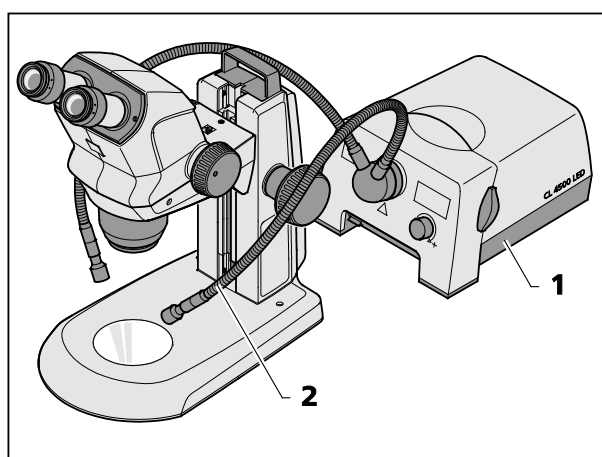

Fig. 11 Mounting external fiber-optic illumination
- Switch on external fiber-optic illumination (Fig. 11/1), adjust illumination intensity and set illumination by bending the two goose necks (Fig. 11/2) so that the specimen is optimally lit.